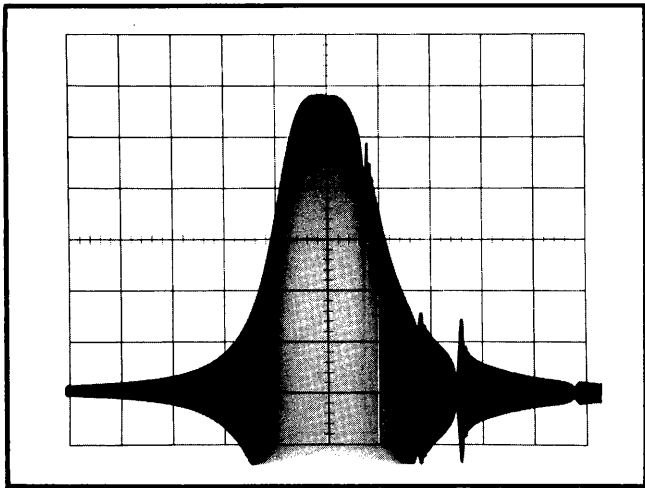

Fig. 6-8. Typical test oscilloscope display for adjusting C504 and C508 (Step 4).
e. Adjust C504 and C508 for a display on the test oscilloscope similar to Fig. 6-8. Set C504 for minimum display width at 1 centimeter above the base line and set C508 for the most symmetrical display. Touch up the settings of C504 for the best symmetry. When the capacitors are properly set, the display on the test oscilloscope will be approximately symmetrical at each position of the RESOLUTION control. Remove the test probe.